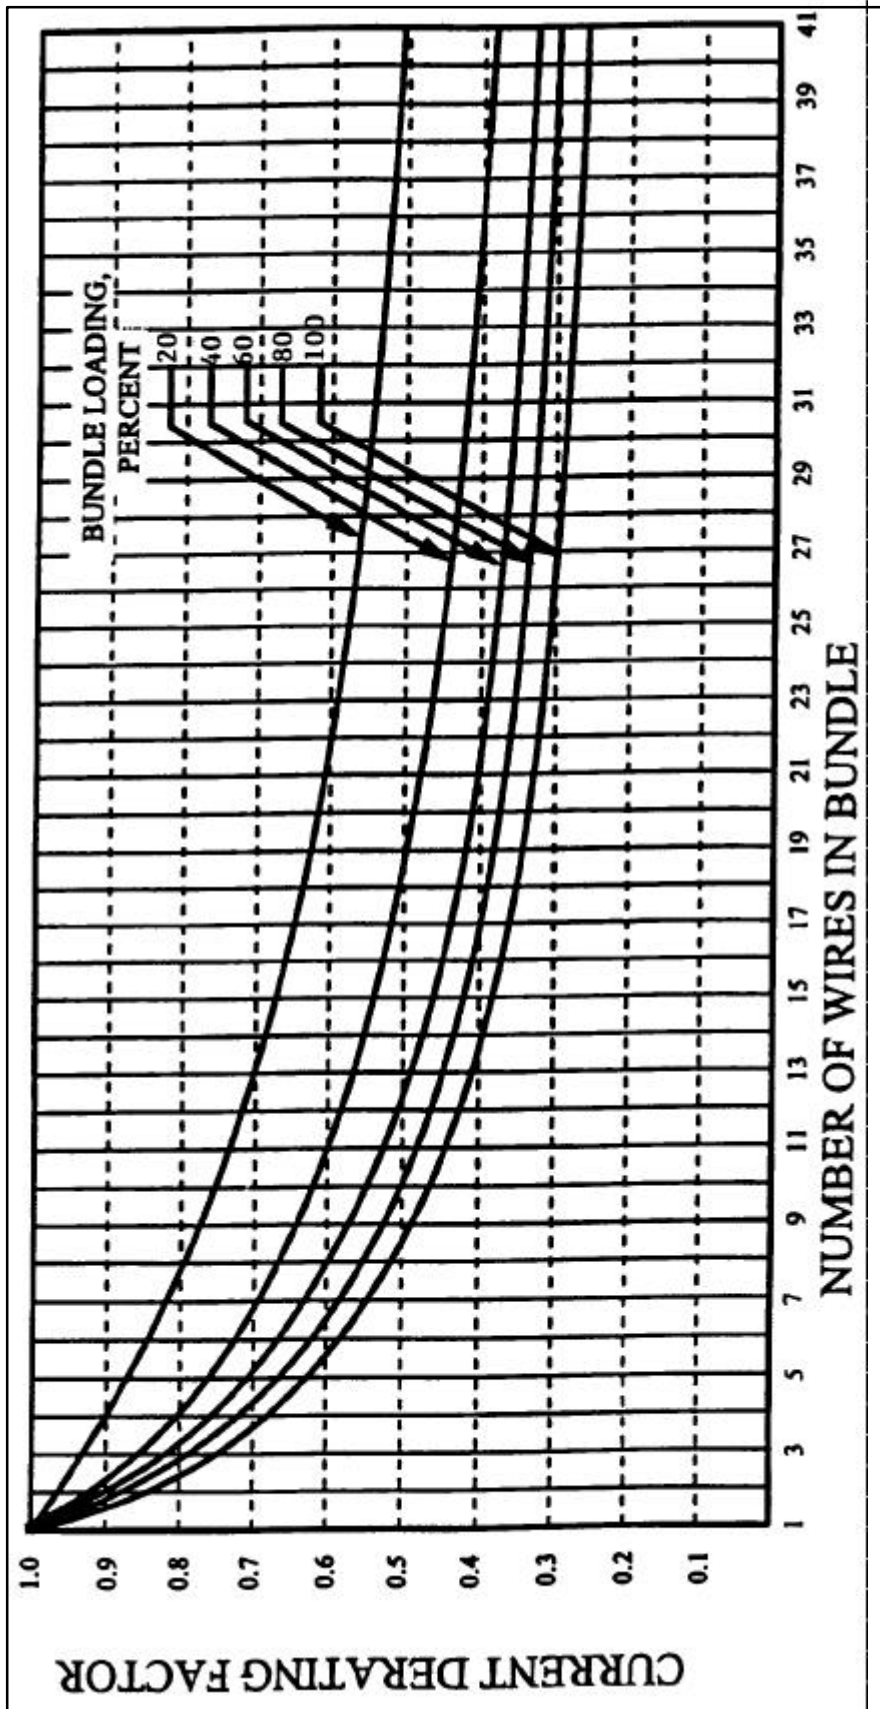

FIGURE 11-5. Bundle derating curves.
11-67. METHODS FOR DETERMINING CURRENT CARRYING CAPACITY OF WIRES. This paragraph contains methods for determining the current carrying capacity of electrical wire, both as a single wire in free air and when bundled into a harness. It presents derating factors for altitude correction and examples showing how to use the graphical and tabular data provided for this purpose. In some instances, the wire may be capable of carrying more current than is recommended for the contacts of the related connector. In this instance, it is the contact rating that dictates the maximum current to be carried by a wire. Wires of larger gauge may need to be used to fit within the crimp range of connector contacts that are adequately rated for the current being carried. Figure 11-5 gives a family of curves whereby the bundle derating factor may be obtained.
d. Wires in a Harness. When wires are bundled into harnesses, the current derived for a single wire must be reduced as shown in figure 11-5. The amount of current derating is a function of the number of wires in the bundle and the percentage of the total wire bundle capacity that is being used.
(10) Use figure 11-5, find the derate factor for 8 wires in a bundle at 60 percent. First find the number of wires in the bundle (8) at bottom of graph and intersect with the 60 percent curve meet. Read derating factor, (left side of graph) which is 0.6. Multiply $0.6 \times 42.77 \text{ Amps} = 26 \text{ Amps}$.
STEP 2: Refer to the “bundle derating curves” in figure 11-5, the 20 percent curve is selected since circuit analysis indicate that 20 percent or less of the wire in the harness would be carrying power currents and less than 20 percent of the bundle capacity would be used. Find 35 (on the abscissa) since there are 35 wires in the bundle and determine a derating factor of 0.52 (on the ordinate) from the 20 percent curve.
STEP 2: Refer to the “bundling derating curves” in figure 11-5, the 100 percent curve is selected because we know all 12 wires will be carrying full load. Find 12 (on the abscissa) since there are 12 wires in the bundle and determine a derating factor of 0.43 (on the ordinate) from the 100 percent curve.